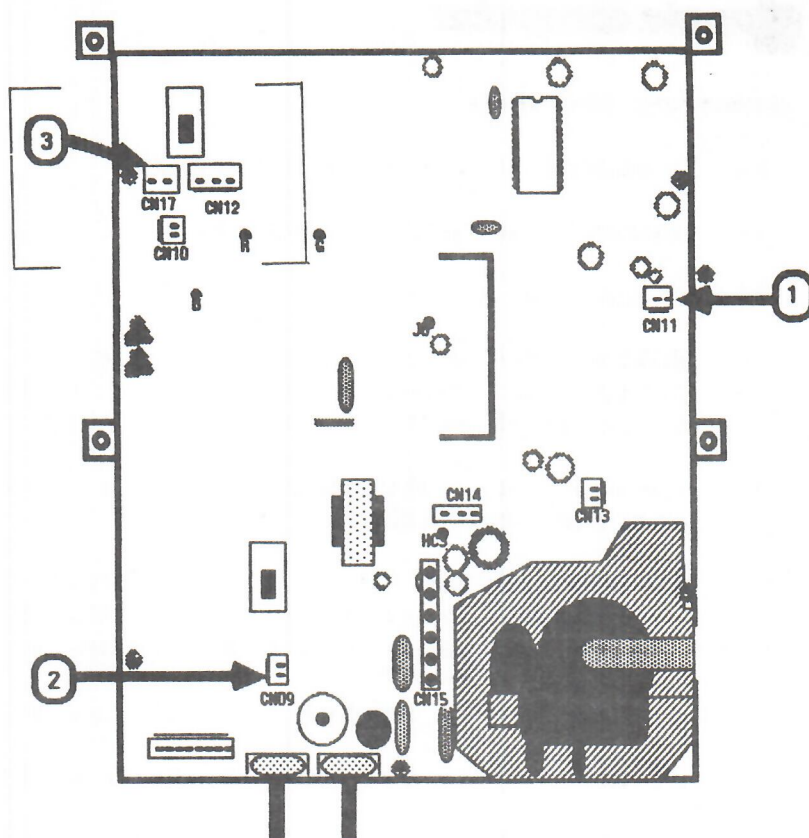

FIGURE 21
NOTE: On the AppleColor Monitor 100 Rev. A, CN17 is located on the logic board (Figure 21, #3).
- b) CN11 (logic board) -- Figure 21, #1
- c) CN09 (logic board) -- Figure 21, #2
[(On the AppleColor Monitor 100 Rev. A, CN17 connects to the logic board -- Figure 21, #3).]